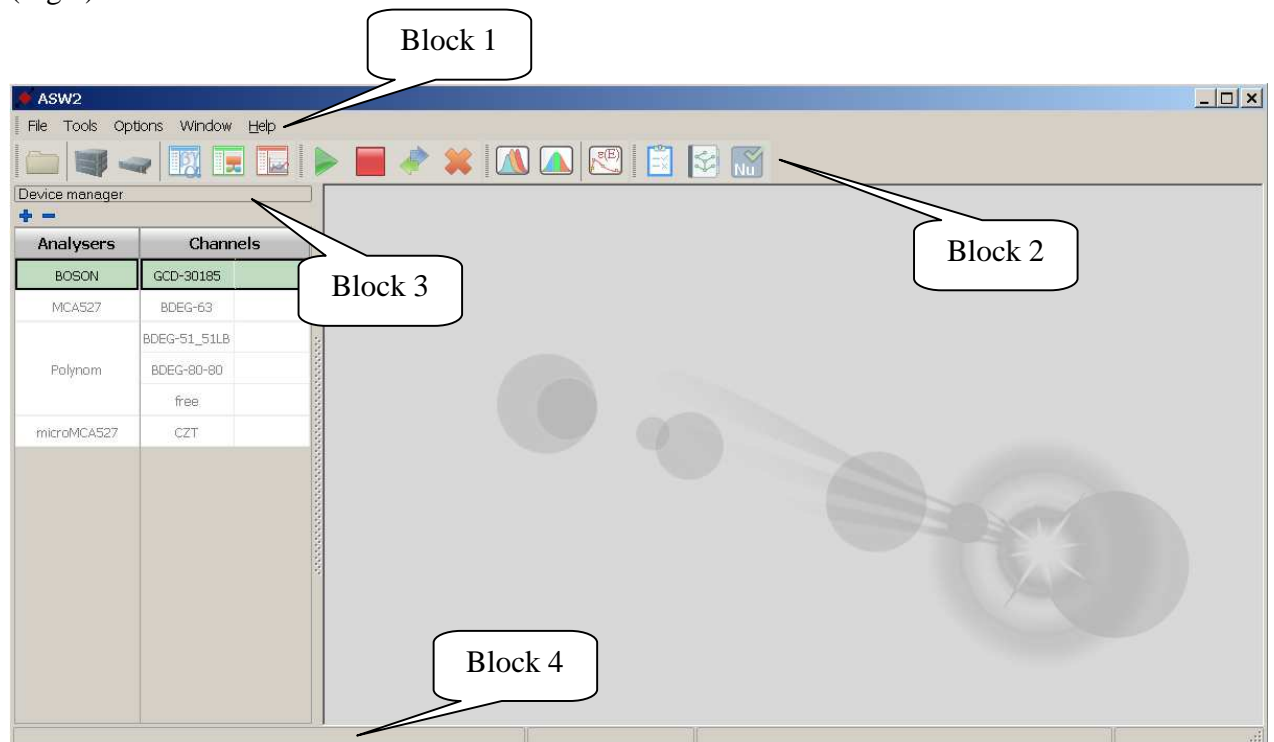

Figure 1. View of **ASW2** after its launch
When the program has started, the main window of the program will appear on the display (Fig.1).
The same can be done by clicking button  in the main window's toolbar (see Fig. 1, block 2).
As **Device manager** (Block 3, Fig.1) can be separated from the left edge of the main program window and can be closed, then **Device manager** can make this panel visible again.
**ASW2** toolbar looks as shown on Figure 1 (block 2). The panel is divided into groups, which can be moved within the panel, or “separated” from the panel and moved to some other area of the main window of the program.
-  - **Device configuration**, displays a configuration window of the analyser (device), which is highlighted in the **Device manager** right now (Fig.1, block 3, **Analysers** column);
-  - **Tract configuration**, displays a configuration window of the spectrometric tract, which is highlighted in the **Device manager** right now (Fig.1, block 3, **Channels** column);
- **Measurement parameters**, displays a window with parameters of measurements for the spectrometric tract, which is highlighted in the **Device manager** right now (Fig.1, block 3, **Channels** column);
- **Calculation parameters**, displays a window with calculation (activity, etc.) parameters for the spectrometric tract, which is highlighted in the **Device manager** right now (Fig.1, block 3, **Channels** column);
- **Spectrum view parameters**, displays a window with parameters of the view of the spectrum (colours of elements of the histogram, background, axes, etc.) for the spectrometric tract, which is highlighted in the **Device manager** right now (Fig.1, block 3, **Channels** column).
- **Energy calibration**, displays energy calibration for the tract, which is highlighted in the **Device manager** right now (Fig.1, block 3, **Channels** column);
- **FWHM and shape calibration**, displays FWHM (full width at half maximum) and shape (left edge shape) calibration of the peak for the tract, which is highlighted in the **Device manager** (Fig.1, block 3, **Channels** column);
- **Start**, starts a measurement in the spectrometric tract, which is highlighted in the **Device manager** right now (Fig.1, block 3, **Channels** column). If the previous measurement has been interrupted manually, the user will be asked if the buffer should be cleaned prior to starting the next measurement;
- **Stop**, stops a measurement in the spectrometric tract, which is highlighted in the **Device manager** right now (Fig.1, block 3, **Channels** column);
- **Read**, forced reading of the spectrum from an analyser for the current spectrometric tract, which is highlighted in the **Device manager** right now (Fig.1, block 3, **Channels** column);
- **Clear**, clears spectrum buffer in the analyser for the current spectrometric tract, which is highlighted in the **Device manager** right now (Fig.1, block 3, **Channels** column).
The **Device Manager** panel (Fig.1, block 3) is intended for switching between analysers (devices) and tracts within a single analyser (if the analyser is multi-tract analyser). This solution allows simultaneously and operatively controlling any number of devices connected to the PC and spectrometric tracts, to start measurements and conduct processing.